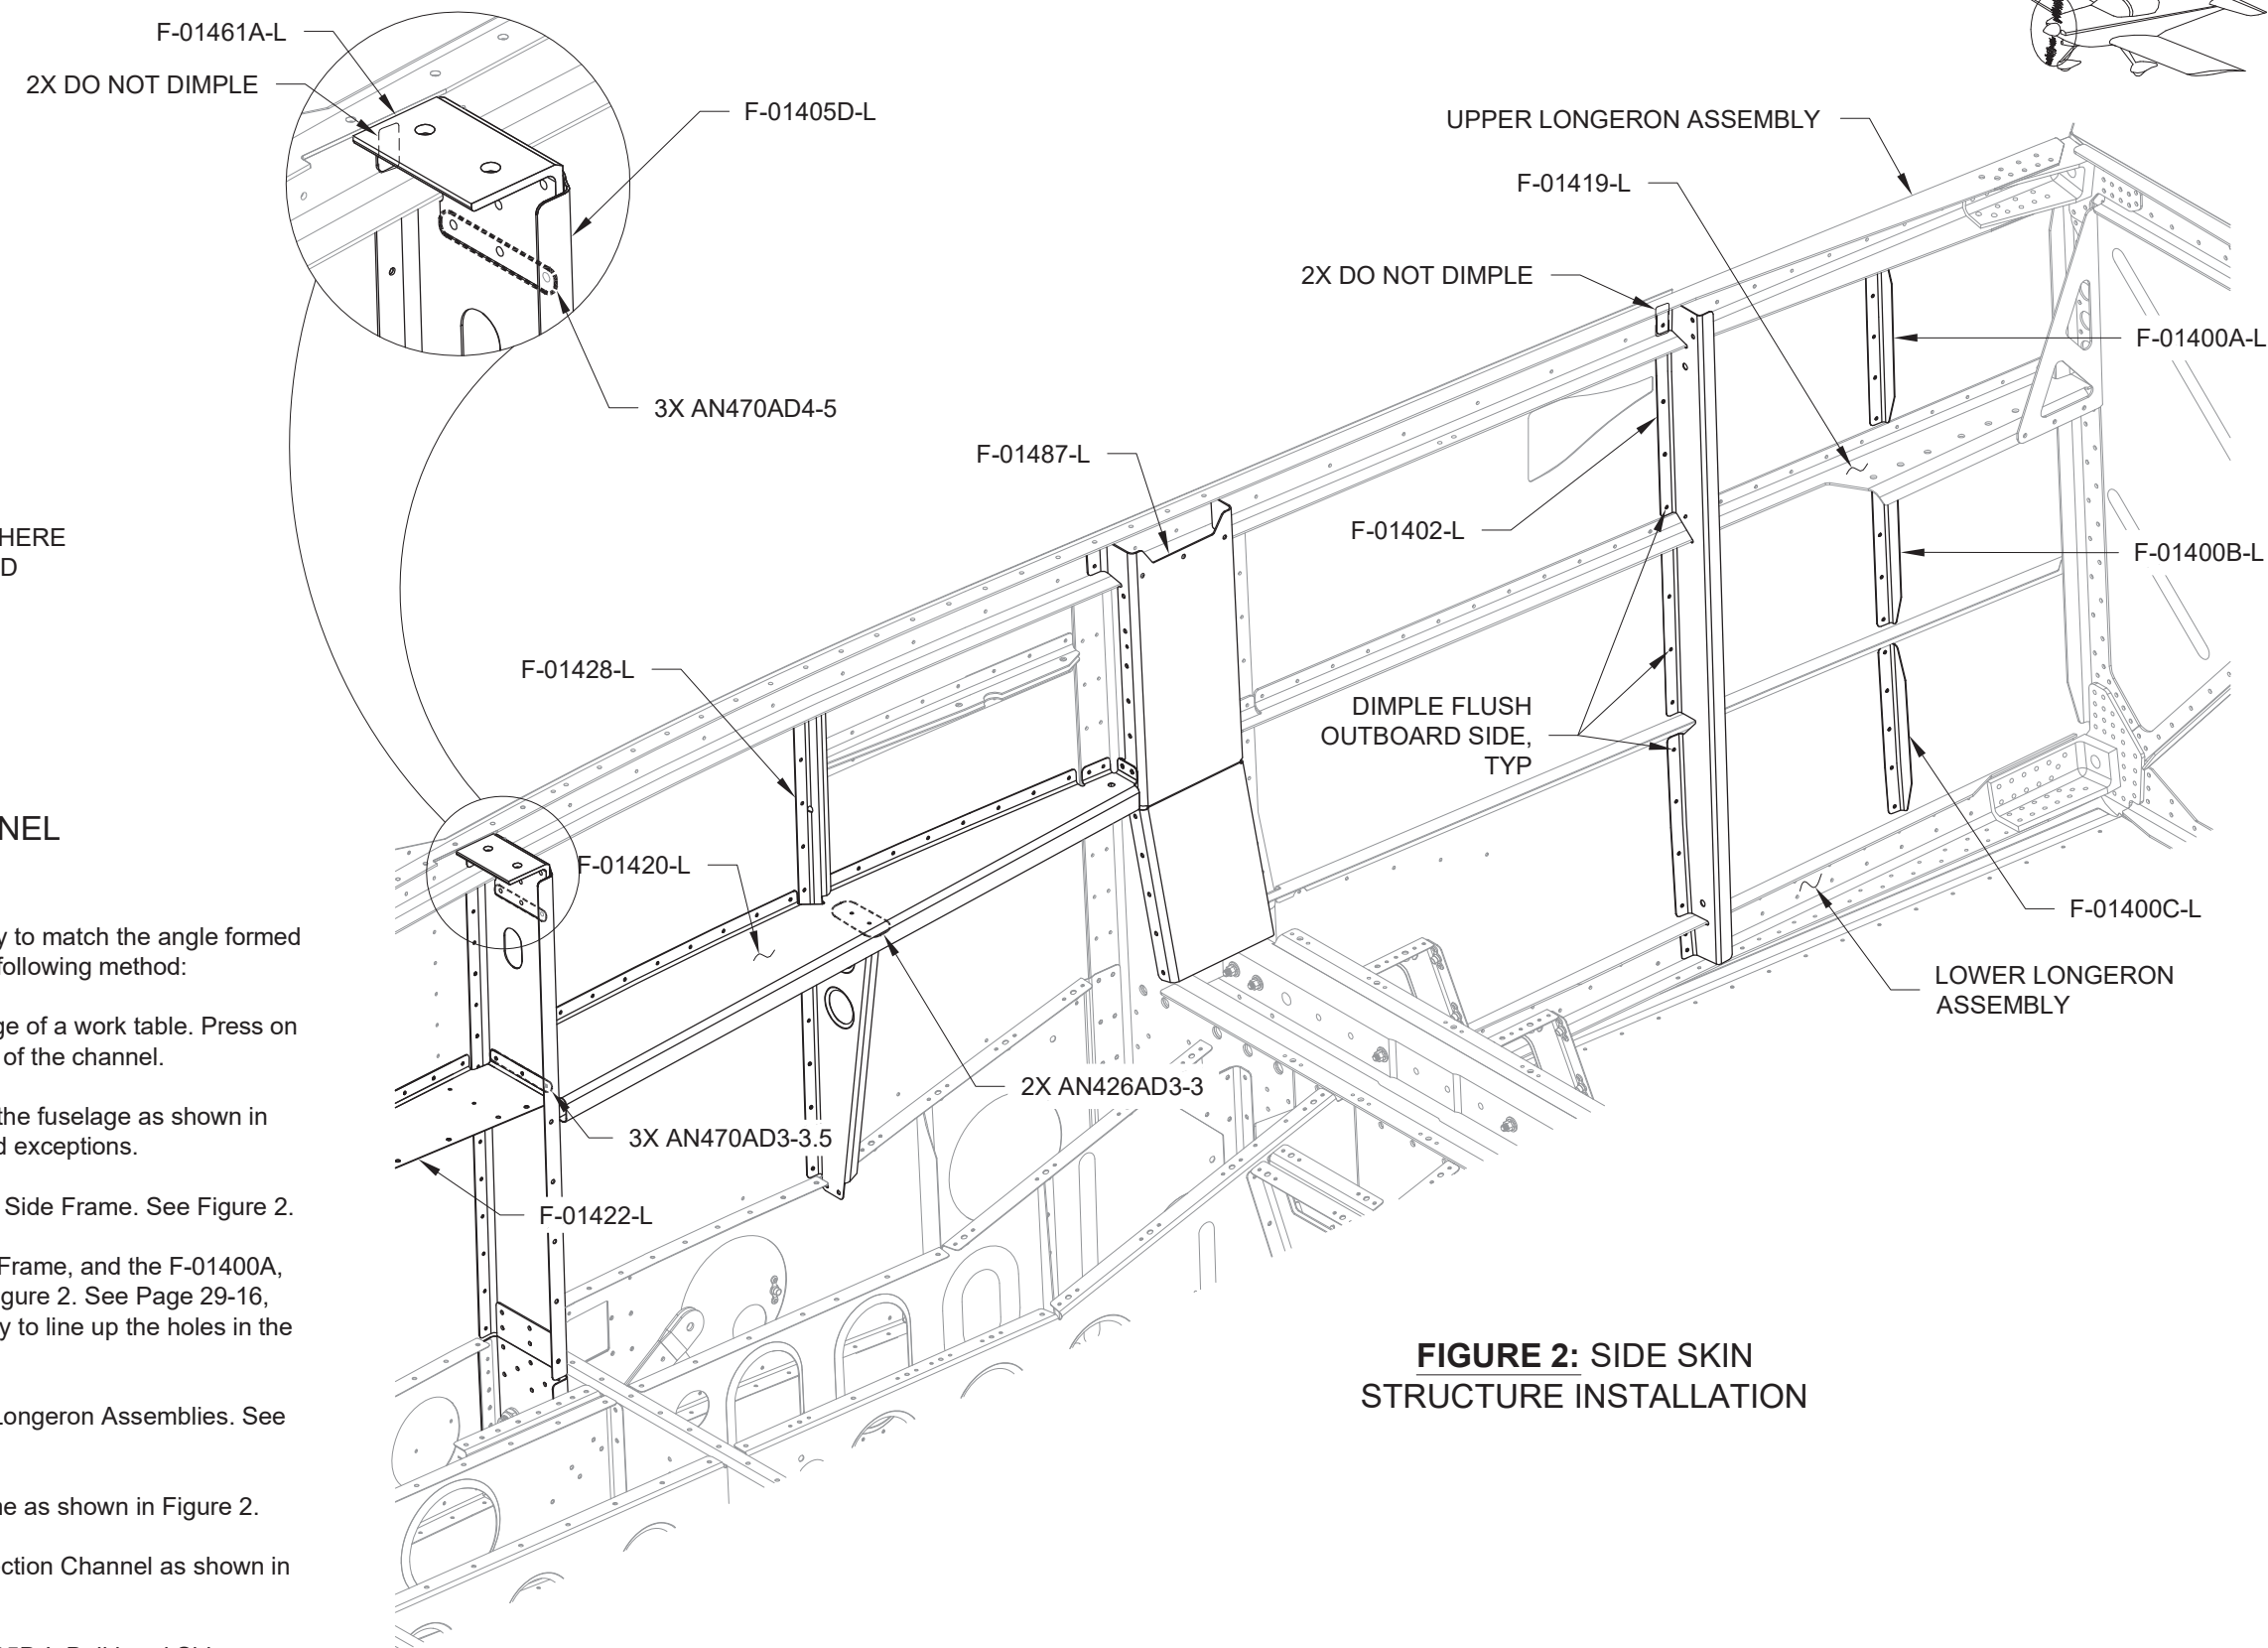

FIGURE 2: SIDE SKIN STRUCTURE INSTALLATION
Step 8: Rivet the F-01461A-L Roll Bar Angle to the aft side F-01405D-L Bulkhead Side Channel in the three locations shown in Figure 2.
Step 9: Rivet the F-01422-L Fuselage Side Rib to the F-01405D-L Bulkhead Side Channel and F-01420-L Arm Rest as shown in Figure 2.
Step 2: Rivet the flap block bracket to the fuselage as shown in Figure 2.